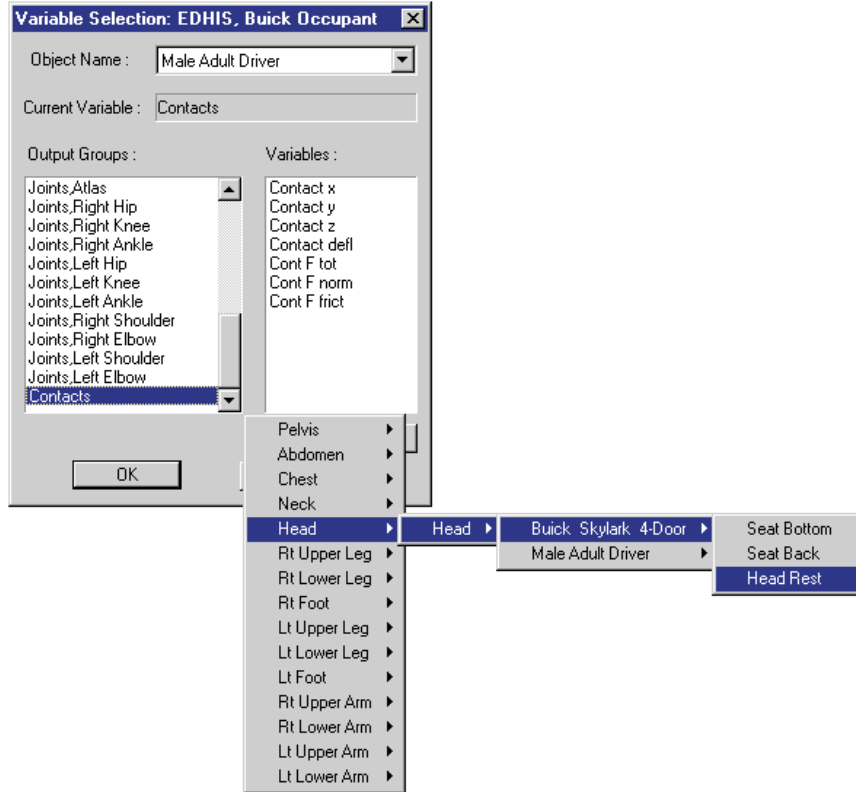

Figure 5-26 Variable Selection dialog, used for selecting the results displayed in the Output Report.
- Click *Contacts* and choose *Head, Head, Buick Skylark 4-Door*, and *Head Rest* from the cascade menus. The Variable Selection list for Head vs Head Rest contact is displayed (see Figure 5-26).
**NOTE:** The first time *Head* is displayed (see Figure 5-26), it refers to the *Head* segment; the second time refers to the ellipsoid named *Head* that is attached to the *Head* segment.